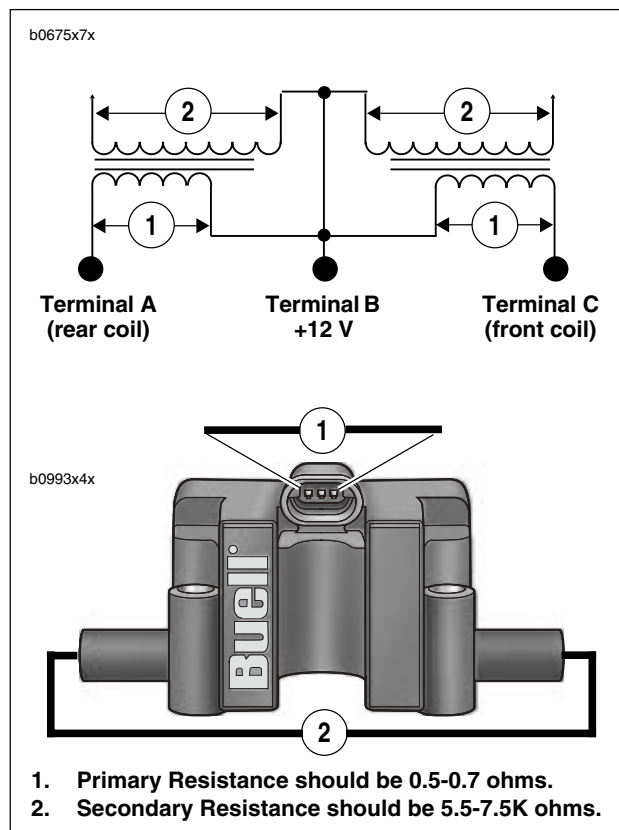

Figure 4-71. Ignition Coil Testing
3. See Figure 4-71. Place multimeter wires on primary coil windings (1).
3. See Figure 4-71. Place multimeter wires on secondary coil windings (2).